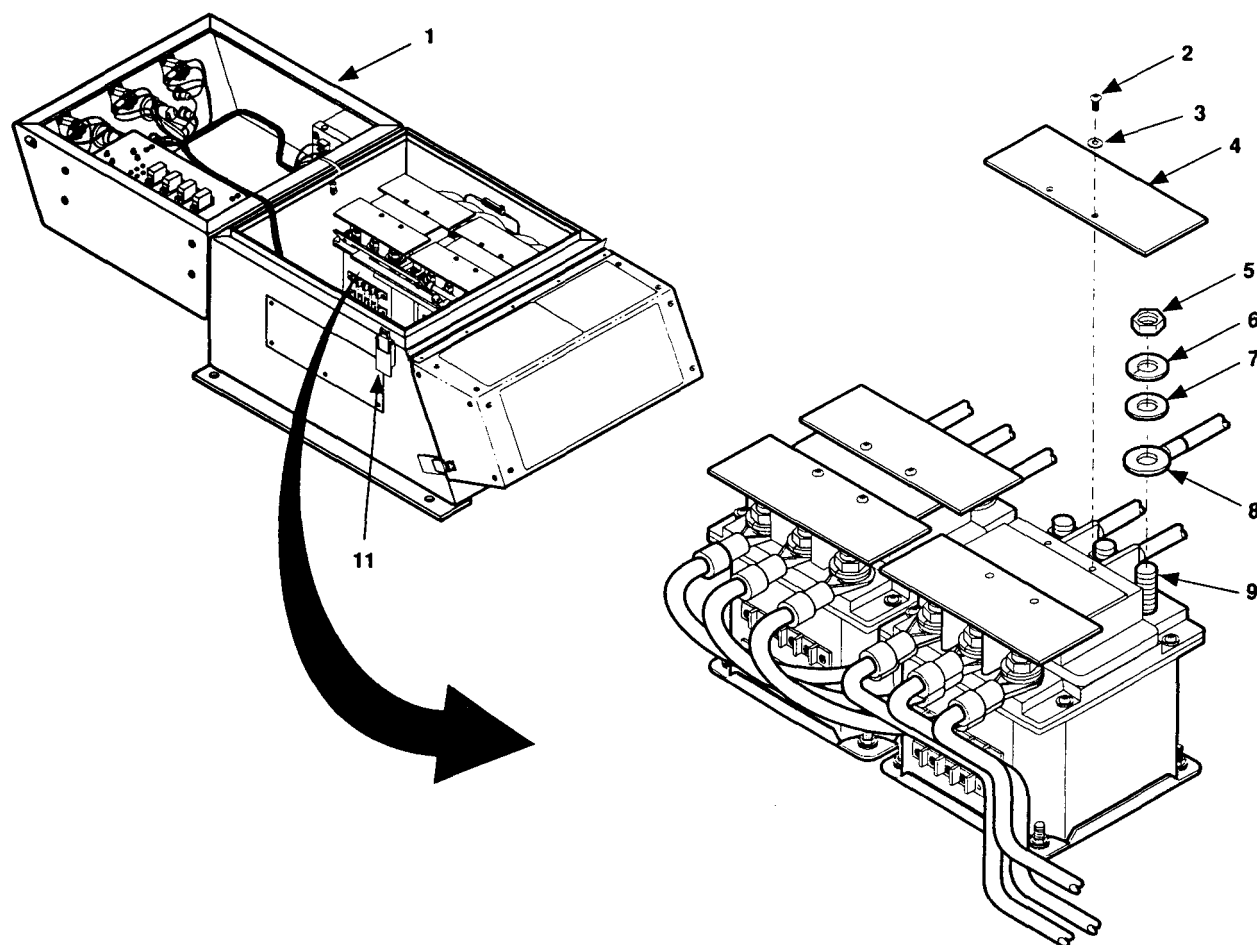
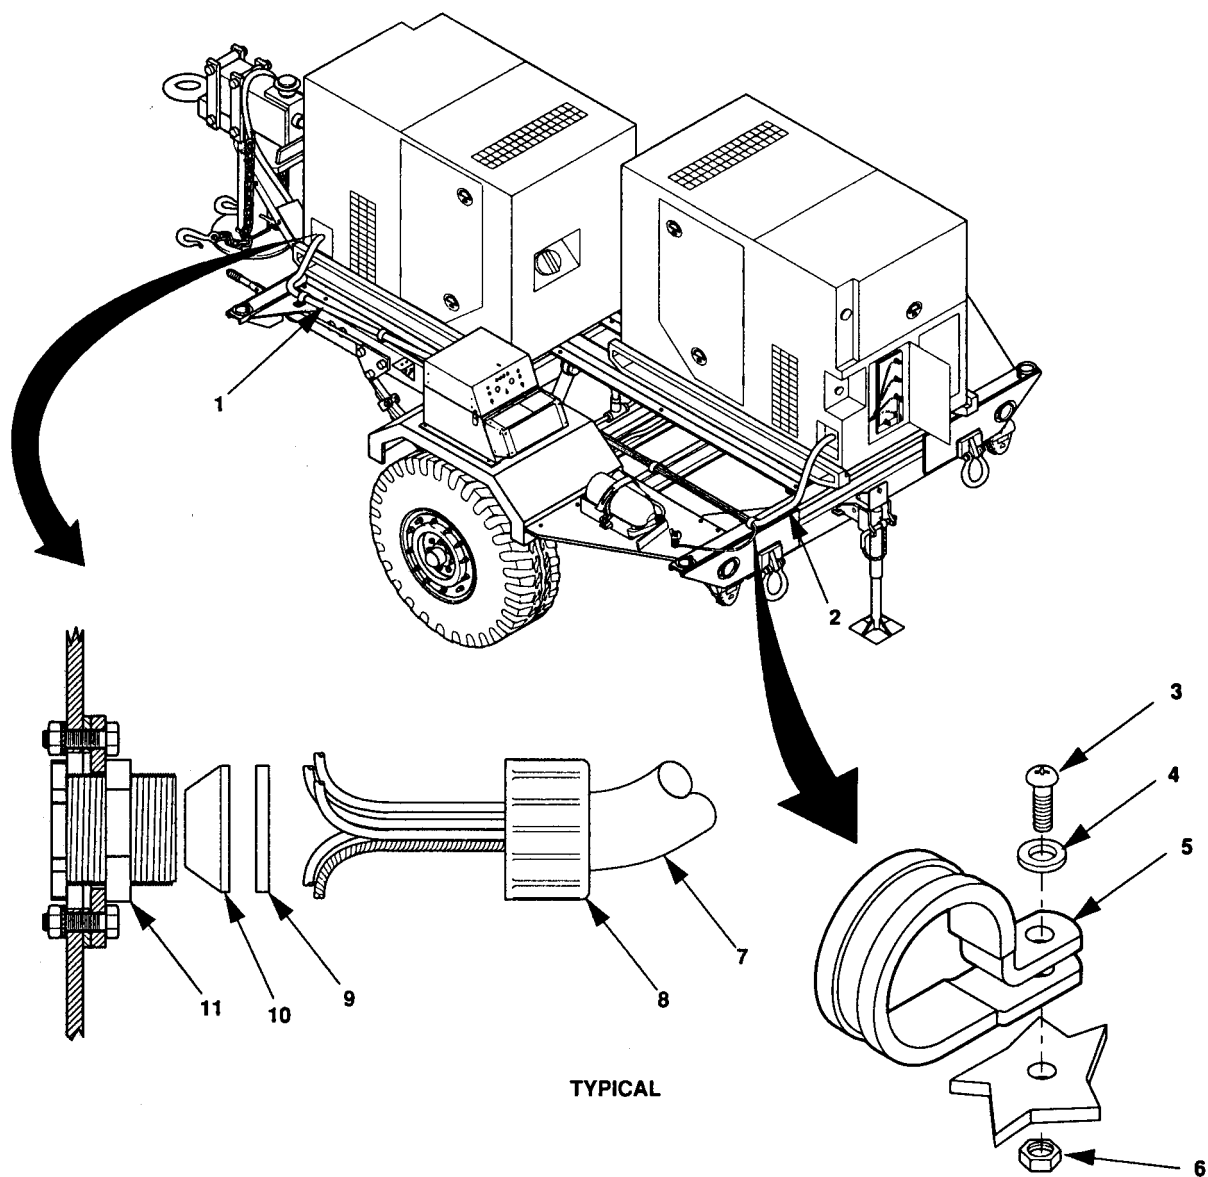
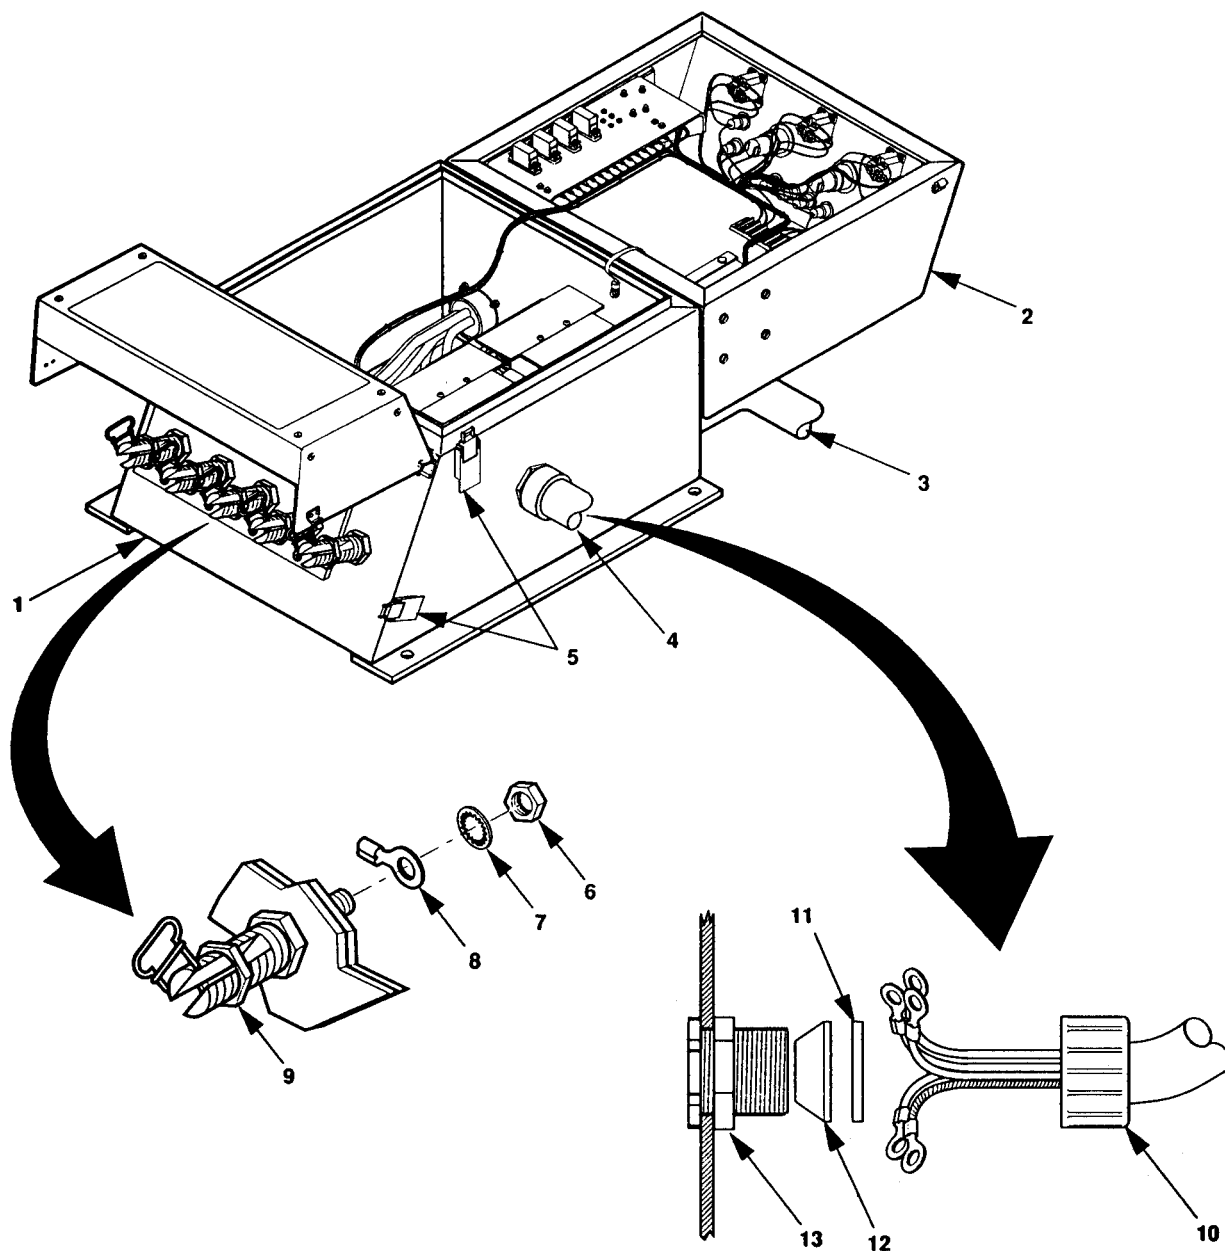

Figure 4-10. Power Cable *Connections to Switch Box Contactors.*
Figure 4-11. Disconnect Power Cable from Generator Set.
Figure 4-12. Disconnect Power Cable From Switch Box Terminals.
1. Release two clamping catches (11, figure 4-10) and open switch box cover (1).
- a. Remove stuffing tube compression nut (8, figure 4-11) from stuffing tube body (11).
- b. Pull power cable (1 or 2) through stuffing tube until ends of power cable are free of stuffing tube body (11).
- c. Remove washer (9), seal (10), and stuffing tube compression nut (8) from power cable (1 or 2). Place items back on stuffing tube and tighten.
- a. Release clamping catches (11, figure 4-10) and open switch box cover (1).
- b. Remove two screws (2) and lock washers (3) from contactor terminal shield (4) of contactor associated with power cable being removed.
- c. Remove contactor terminal shield (4).
- d. Remove nuts (5), lock washers (6), and flat washers (7) from contactor terminals (9).
- e. Lift terminal leads (8) from contactor terminals (9). Remove only the terminal leads associated with electrical leads of power cable being removed. If necessary to remove other terminal leads to access those for power cable being disconnected, reinstall other terminal leads onto contactor terminals (9).
- f. Install flat washers (7), lock washers (6), and terminal nuts (5) on contactor terminals (9).
- g. Remove hex nuts (6, figure 4-12) and internal tooth washers (7) from ground and LO terminals (9) of switch box.
- h. Remove only the wire associated with the power cable being replaced. If necessary to remove other terminal leads to access those for power cable, reinstall other terminal leads on terminal (9).
- i. Place internal tooth washers (7) over the end of terminals (9) and loosely install the hex nuts (6).
- j. Remove stuffing tube compression nut (10) from stuffing tube body (13).
- k. Pull power cable (3 or 4) through stuffing tube until ends of power cable are free of stuffing tube body (13).
- l. Remove washer (11), seal (12), and stuffing tube compression nut (10) from power cable (3 or 4). Place items back on stuffing tube and tighten.
- a. Remove self-locking nuts (6, figure 4-11), screws (3), and flat washers (4) securing clamps (5) to trailer. Remove cable (3 or 4).
- b. Remove clamps (5) off power cable (3 or 4).
1. Install stuffing tube compression nut (10, figure 4-12), washer (11), and seal (12) on end of power cable (3 or 4) having leads with terminal lugs.
2. Insert terminal lug end of power cable (3 or 4) into stuffing tube assembly (13) and slide forward until end of power cable outer covering is visible inside switchbox (1).
3. Slide seal (12), washer (11), and stutling tube compression nut (10) forward and tighten compression nut.
4. Remove hex nut (6) and internal tooth washer (7) from load terminal L0 (9) and install lead marked L0.
5. Install internal tooth washer (7) and hex nut (6). Tighten hex nut.
7. Remove nuts (5, figure 4-10), lock washers (6), and flat washers (7) from contactor terminal (9) of contactor associated with power cable being installed.
9. Install flat washers (7), lock washers (6), and nuts (5) on contactor terminals (9). Tighten nuts.
10. Install contactor terminal shield (4), lock washers (3), and screws (2).
11. Close switch box cover (1) and secure with clamping catches (11).